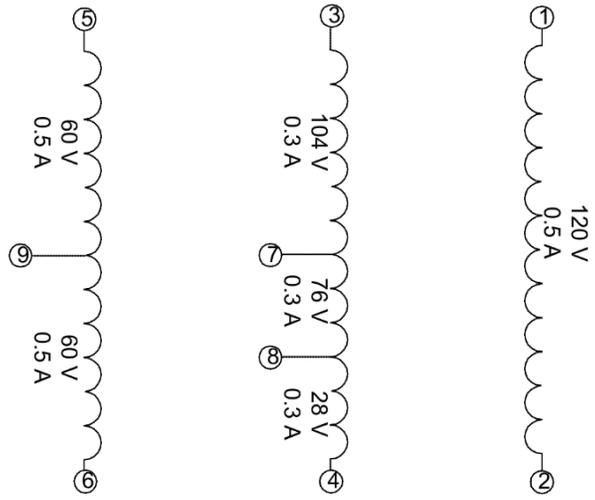
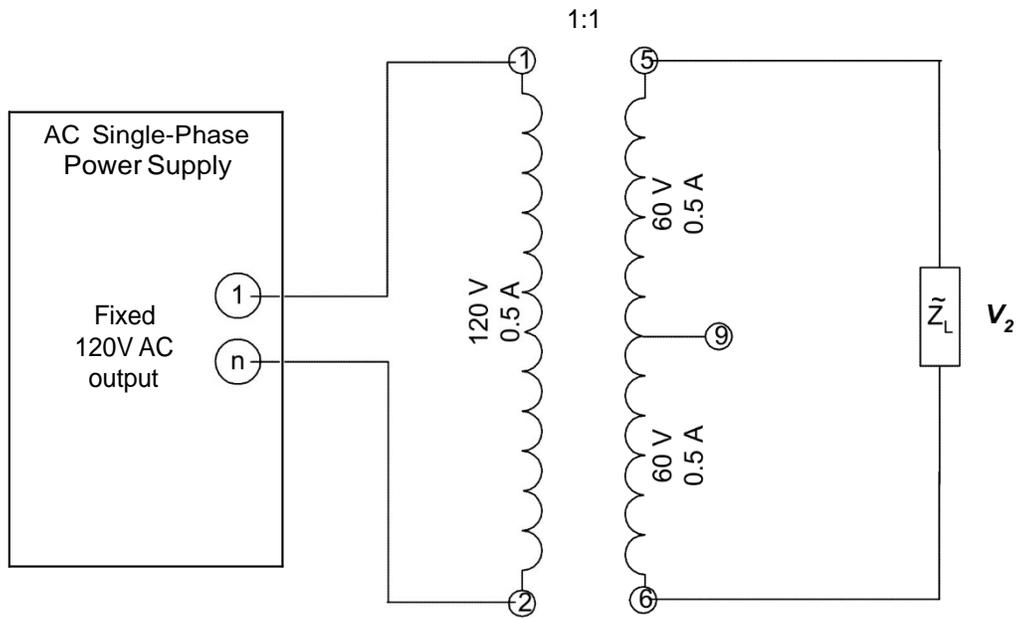
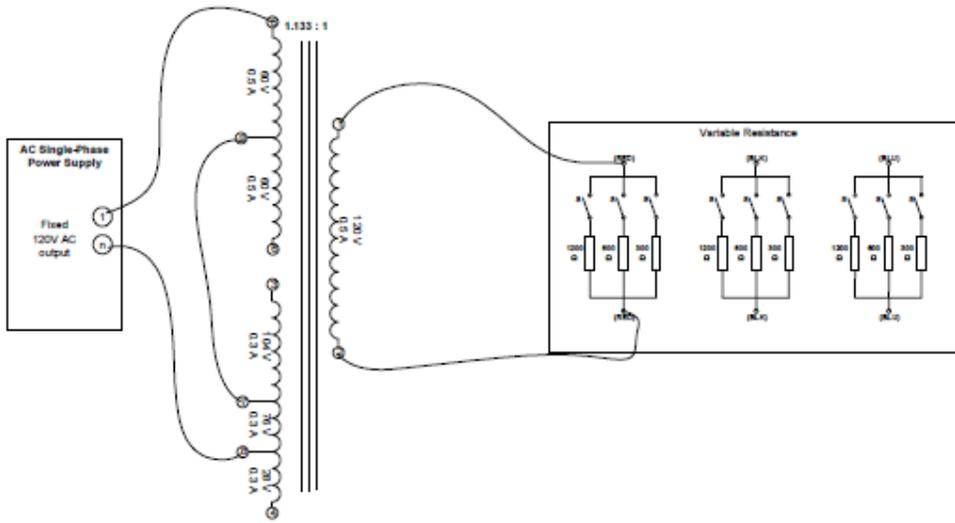

FIGURE 4.13
FIGURE 4.14
FIGURE 4.17
The transformer we have on the Electric Machines Laboratory has three magnetically coupled windings (Figure 4.13). When the primary winding of this transformer is excited a voltage is simultaneously induced in the other two windings. Any of the three windings can be used as primary or secondary (or be combined to form another winding as in Figure 4.14 through Figure 4.17).
- 2) Determine from Figure 4.14 to Figure 4.17 what is:
- What will be the voltage reading if the circuit is connected as in Figure 4.17?